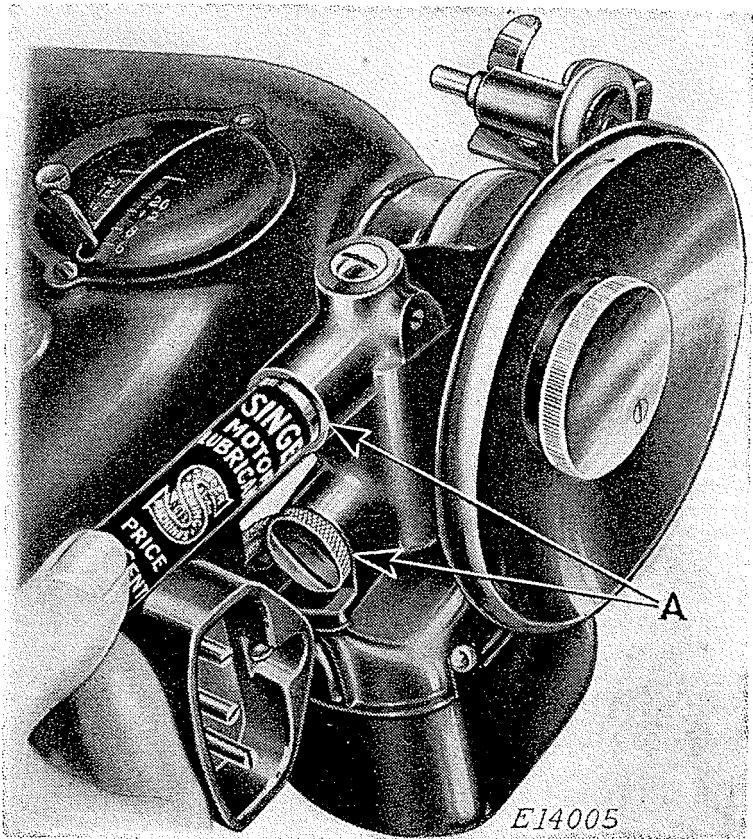

FIG. 26. LUBRICATING THE MOTOR
When the machine is shipped from the factory, the two motor grease cups (A, Fig. 26) are filled with sufficient Singer Motor Lubricant for approximately one year's use, under ordinary circumstances.
At least once a year thereafter, turn the machine back on its hinges and remove the two thumb screws from the two grease cups (A) and clean out the interior of the cups. Then insert the tip of the motor lubricant tube into the grease cups as shown in Fig. 26, and, while holding the tube firmly against the bottom of the grease cups, **squeeze about a quarter of a tube of the lubricant into each cup**, then replace and tighten the thumb screws.